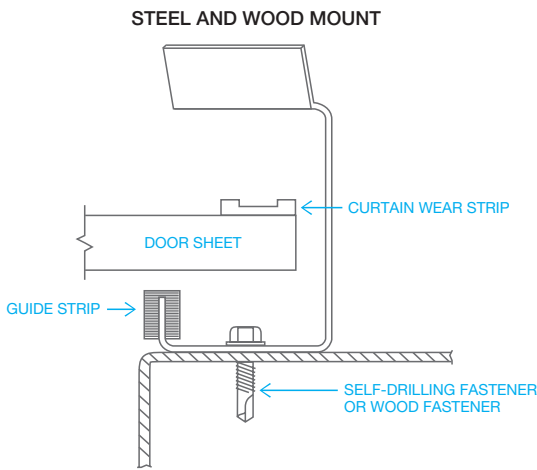

Figure 7A
- Fasten the guide rails to the door jambs with the fasteners included in the hardware package (**Figures 7A or 7B**).